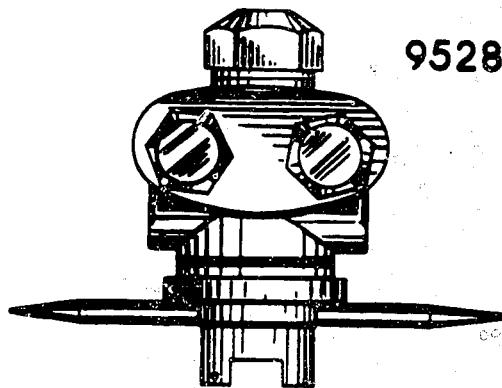

FIGURE 9 - SERVICE PIN RETAINING SPINDLE
5. Reposition supply pump housing (7) upright in vise being careful not to crush housing, then tighten the screws (11), or hand primer assembly with or without adapter, securely. Do not overtighten.
6. Insert spindle (5) into its bore in the housing (7).
7. Fabricate a suitable 1/8" diameter service pin and, with the spindle all the way in, insert the service pin through the two holes in the tappet guide portion of the housing (Refer to Figure 9). This retains the spindle during hydraulic testing.